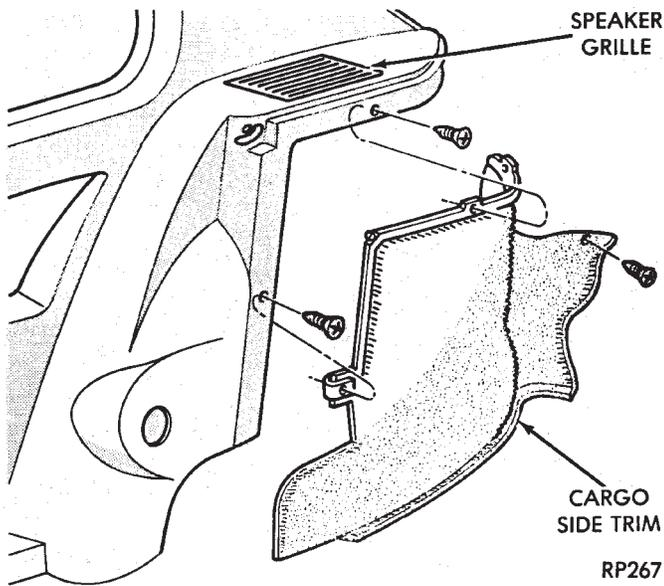

Fig. 30 Cargo Side Trim Panel—AP Body
- (1) Remove cargo side trim panel (Fig. 30).